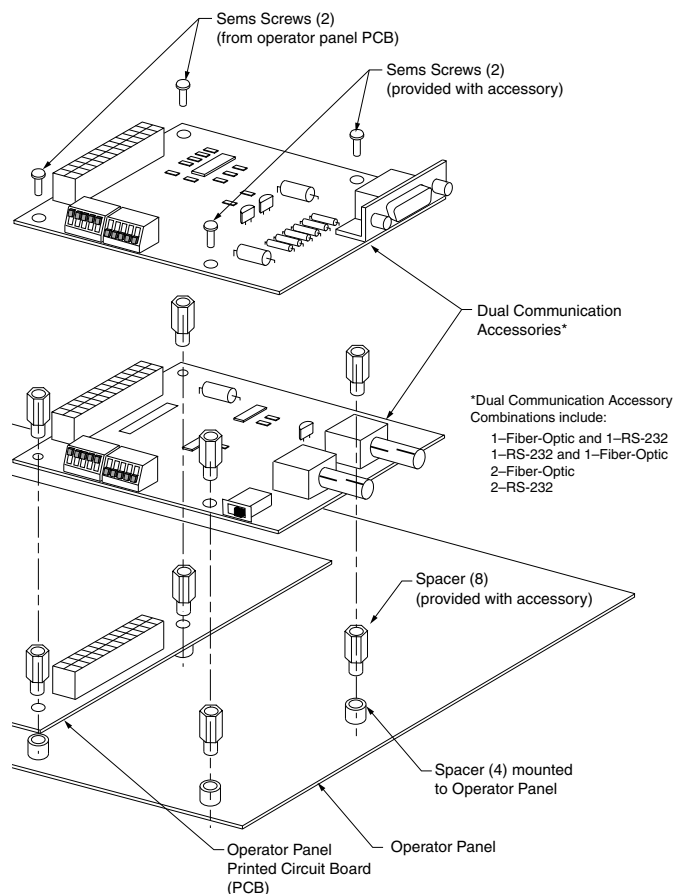

Figure 11.
Refer to Figure 11 and follow these instructions to install two communication accessories.
11. Secure the accessory with the kit-provided sems screws and the screws previously removed from the operator panel PCB. See Figure 11.